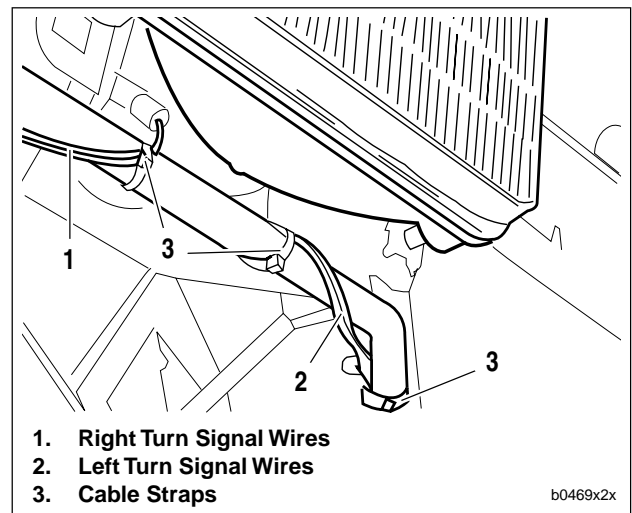

Figure 2-108. Cable Straps
3. See Figure 2-108. Use **new** cable straps (3) to secure wires (1, 2) to front fairing mount.